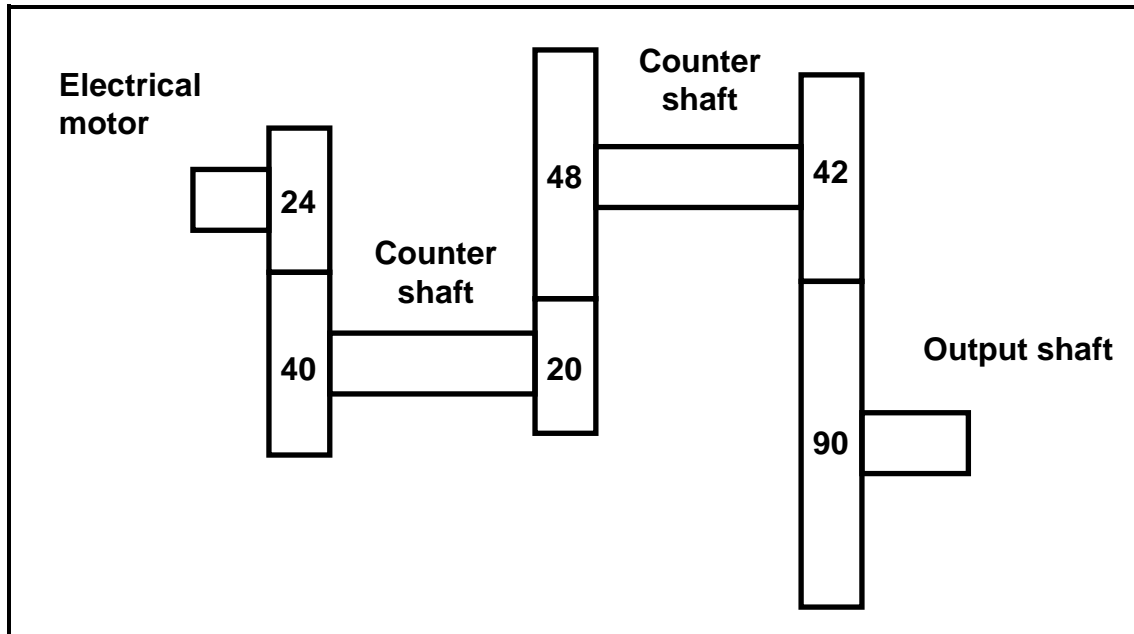

FIGURE 6.3
6.4 FIGURE 6.3 shows a gear drive system. A driver gear on the shaft of an electric motor has 24 teeth and meshes with a gear on a counter shaft with 40 teeth. On this counter shaft is another driver gear with 20 teeth that meshes with a gear with 48 teeth on a second counter shaft. The second counter shaft has a driver gear with 42 teeth which drives a gear with 90 teeth on the output shaft.